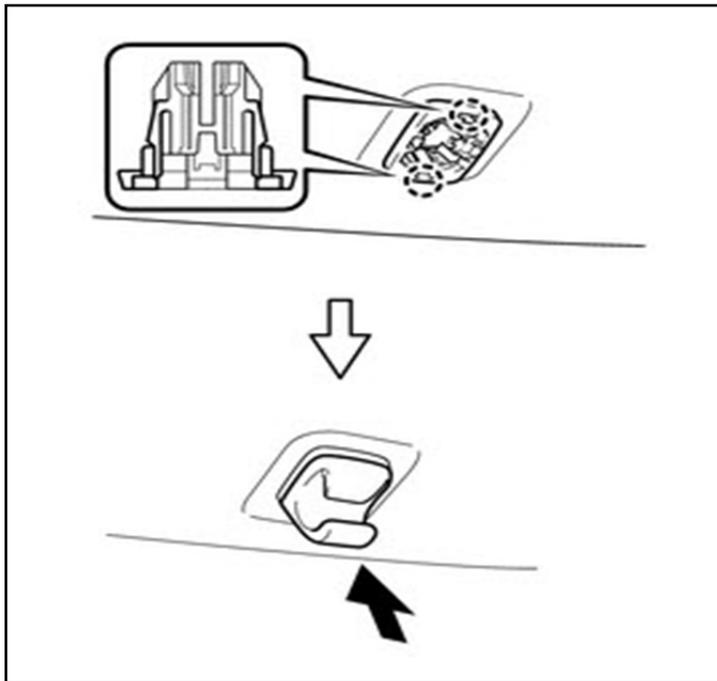

Figure 24
24. Engage the 2 claws. Push in the visor holder as shown in the illustration. See figure 24.